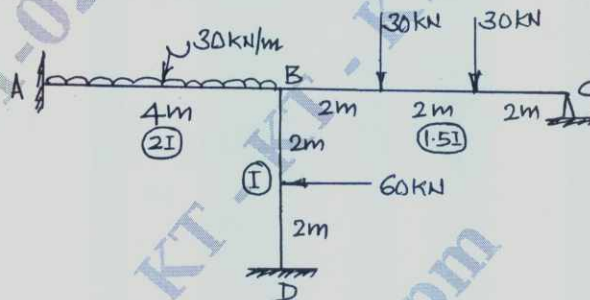

Fig.Q1
- 1 Analyze the frame shown in Fig.Q1. Using slope deflection method. Also draw BMD and sketch the elastic curve.